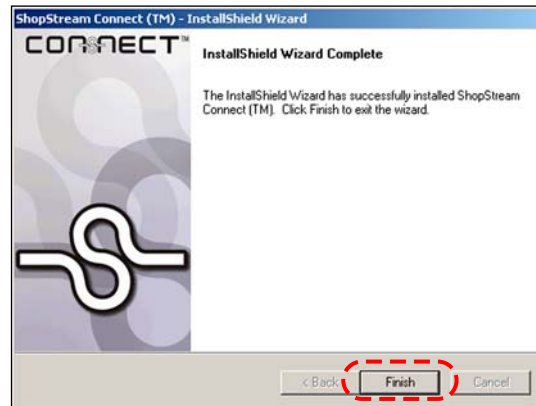

Figure C-6 Sample Complete screen
6. When the Complete screen displays, select **Finish** to close the Install Wizard (Figure C-6).